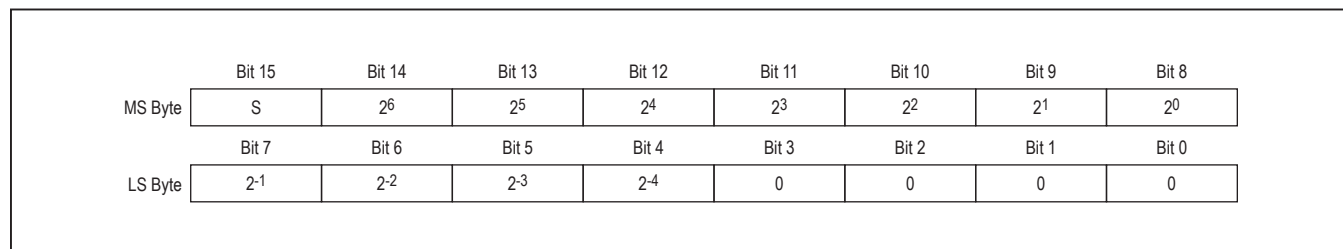

Figure 17. Temperature Reading Registry
- 1780h in binary represents 0001 0111 1000 0000. Following Figure 17, the temperature can be calculated.